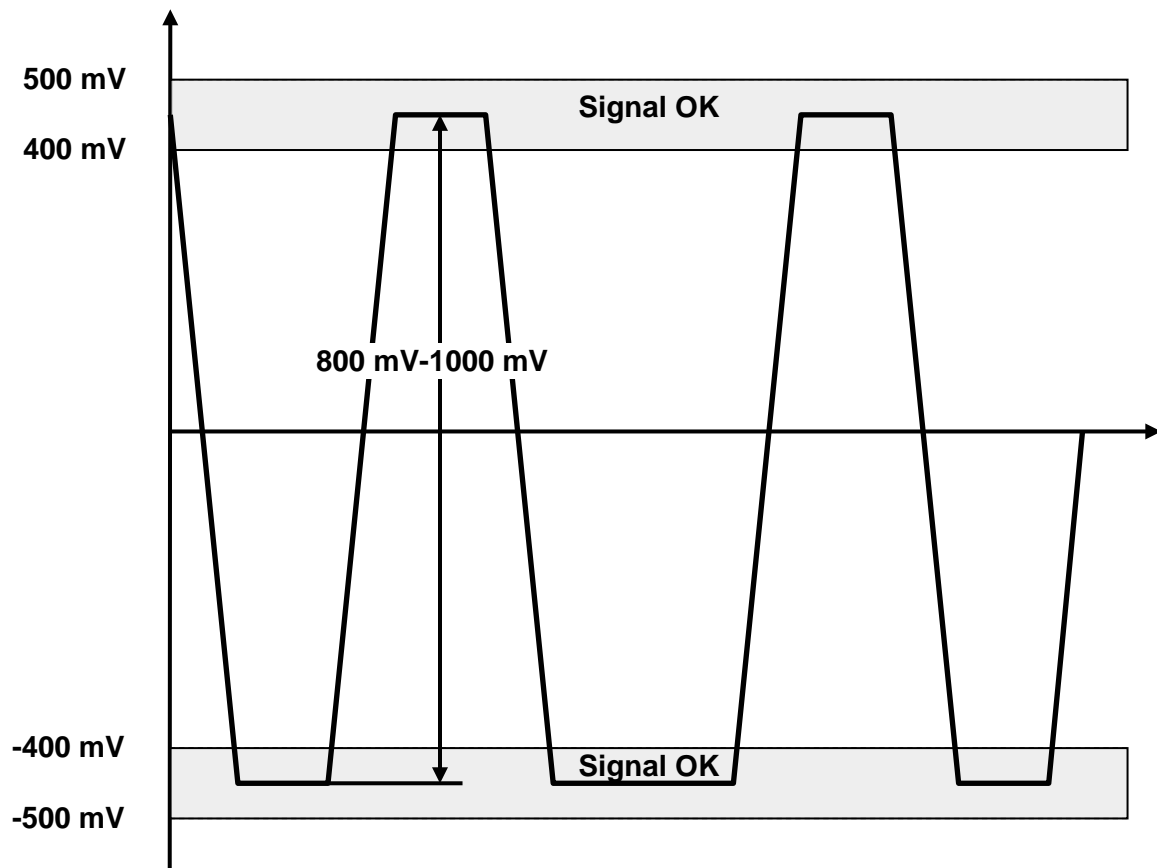
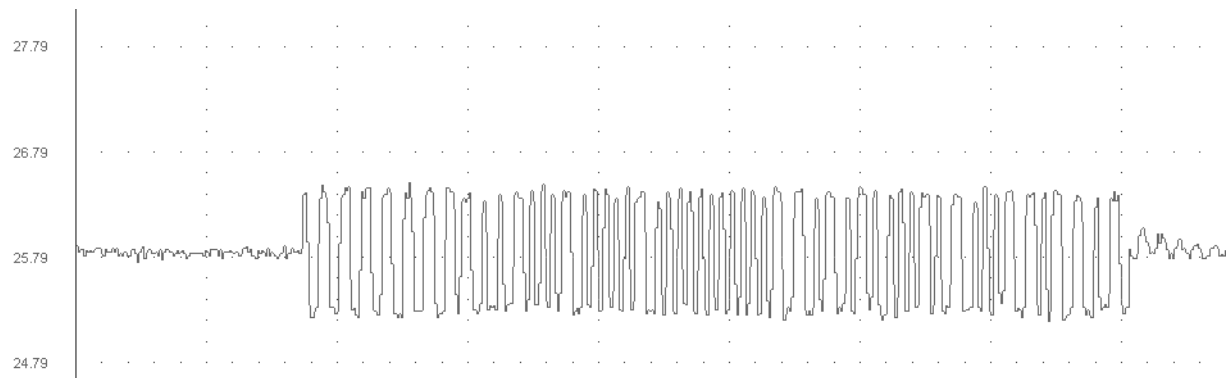

Figure 5-9: Ideal signal form PROFIBUS MBP (PA)
Figure 5-11: Measurement PROFIBUS MBP (PA) (1 telegram)
In practice you will never encounter an ideal signal form as shown in Figure 5-9. In Figure 5-11 is shown of what a data telegram can really look like on the PROFIBUS MBP (PA).